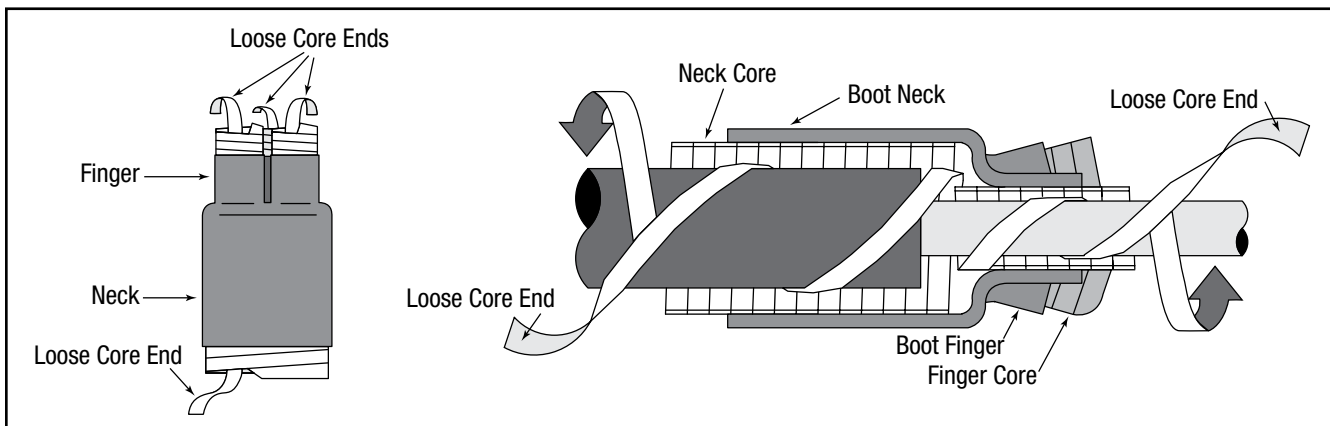

Figure 11
- 4.1 Inspect breakout boot assembly and confirm that all loose plastic core ends are free as shown (*Figure 11*).